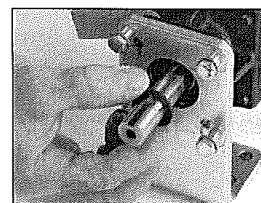

Fig. 5
5. Inspect slinger ring (Ref. 21) on hydraulic motor shaft for wear. (See Fig. 5.)
1. Install slinger ring (Ref. 21) on hydraulic motor shaft. (See Fig. 5.)